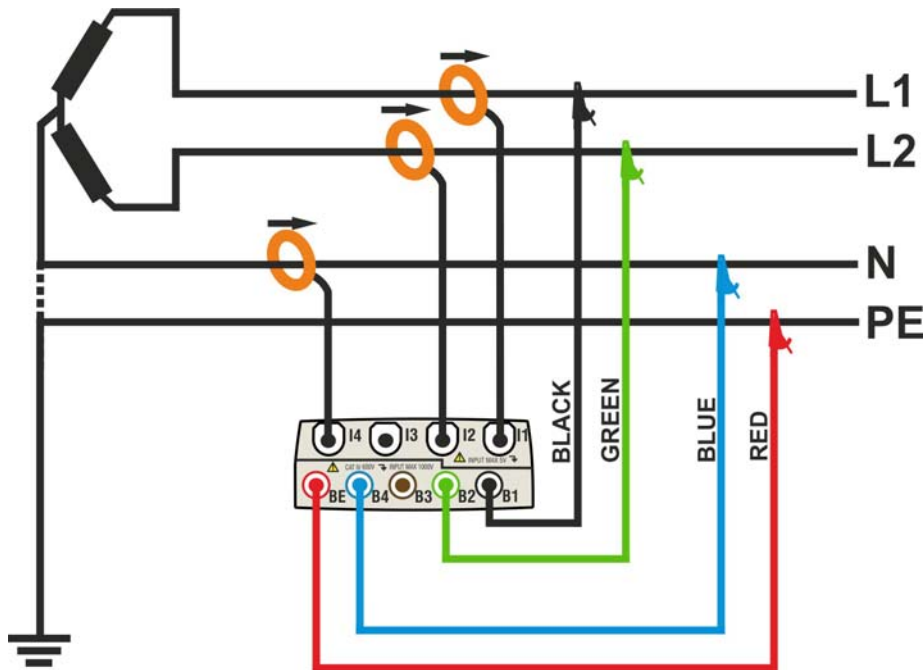

Fig. 171: Meter connection in a two phase 3-wire 3P2E system
2. Connect voltage test leads on Phases L1, L2, N and PE cables considering the colours as shown in Fig. 171
3. Connect the transducer current clamps on Phase L1, L2, N cables as shown in Fig. 171 respecting the clamp's arrow direction indicating the current standard sequence from generator to load. **On Real Time Values' section screens (selecting a 3 wire system preliminarily) always verify the positive value of Active Power and the power factor relative to load which should be normally inductive before starting a recording.** Reverse the clamp by 180 degrees on cables in case of negative readings.